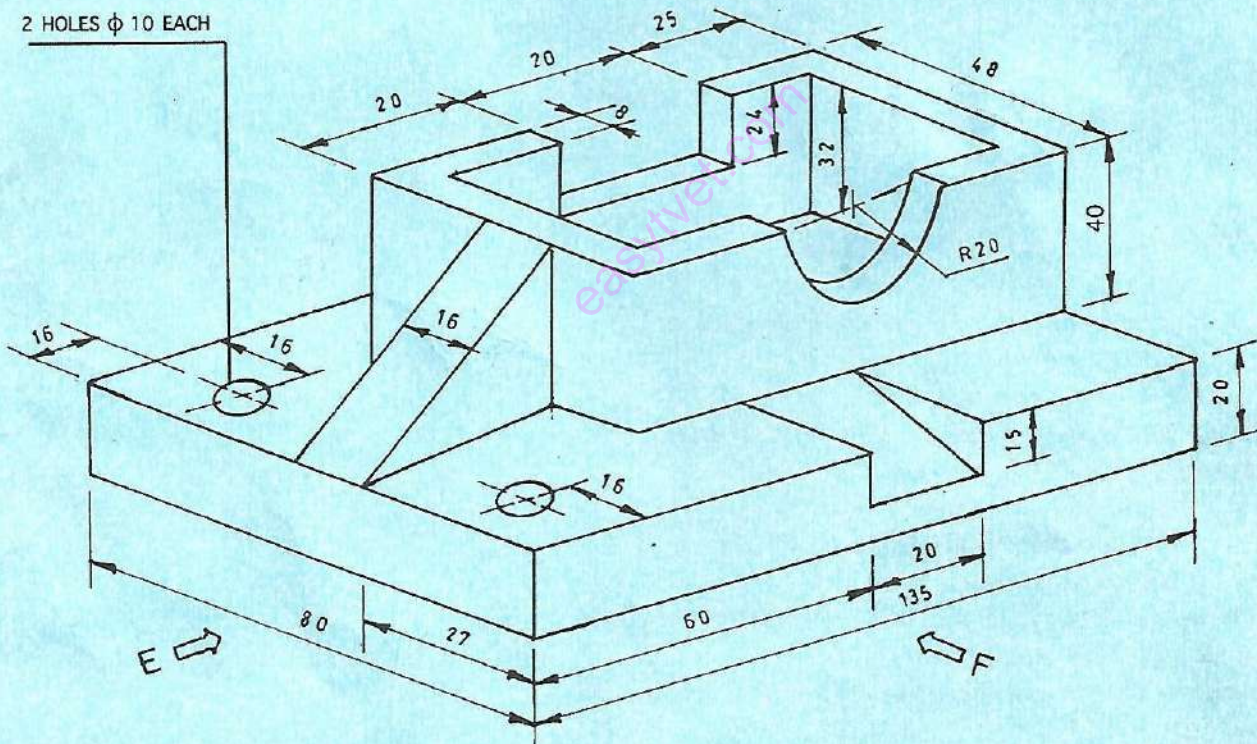

Fig. 1
1. Figure 1 shows a pictorial view of a bracket. Draw full size in first angle projection the following views: